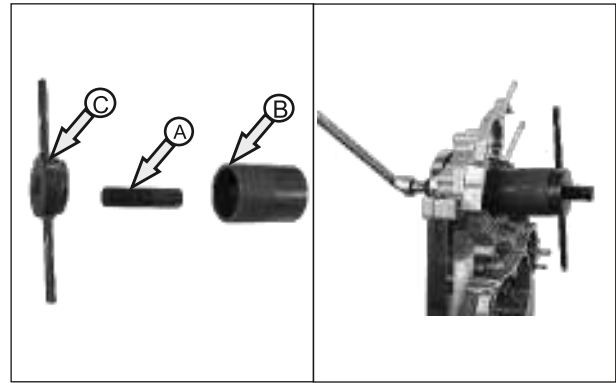

Fig. 1.19
- Assemble the rod crank shaft puller (A) on crank shaft at magneto side. Insert the hollow pipe (B) on rod crank shaft puller and seat it on crank case and tighten the handle assembly crank shaft puller ©. (Fig. 1.19)